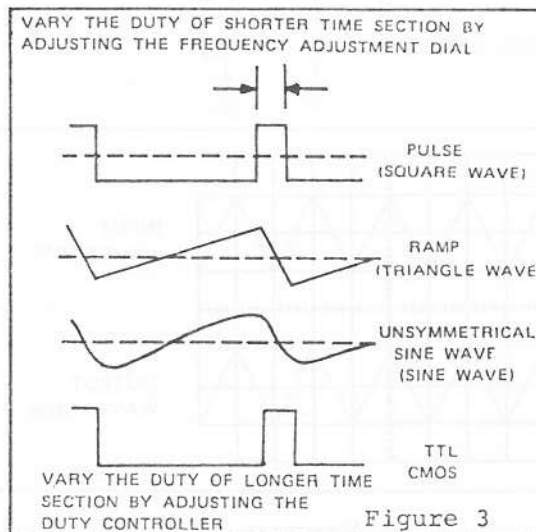

Figure 3
- (3) When Duty switch be adjusted to leave in CAL position. The ratio of positive state to negative state, expand to not less 10:1. Square wave can expand to pulse wave, triangle wave can expand to ramp wave, sine wave can expand to a un-symmetrical sine wave. As showed in Figure 3 suitable adjustment of Duty switch will generate of requiring wave.